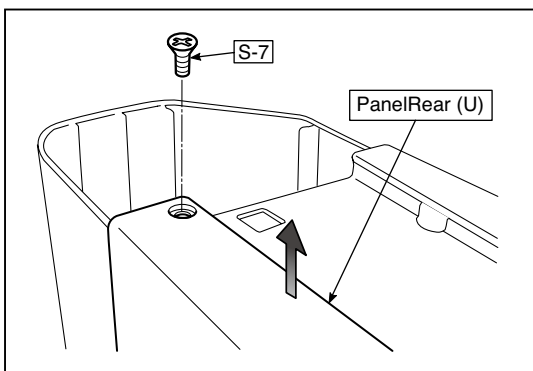

Fig.24
1. Remove the "S-4" and "S-7" screws shown in the figure 24 and then remove the Panel Rear (U).